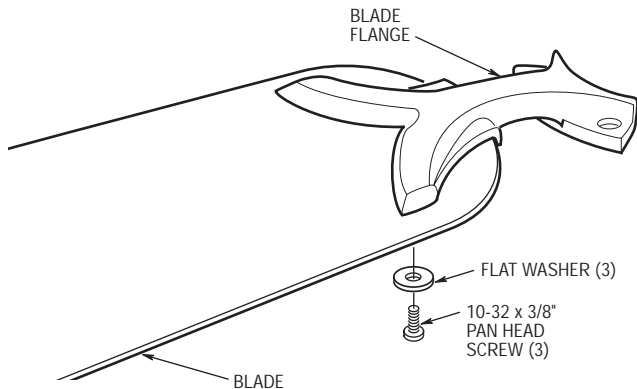

Figure 6
- 11. Use three 10-32 x 3/8" pan head screws and flat washers (supplied) to secure flange to blade (Figure 6). Repeat for the remaining four blades.